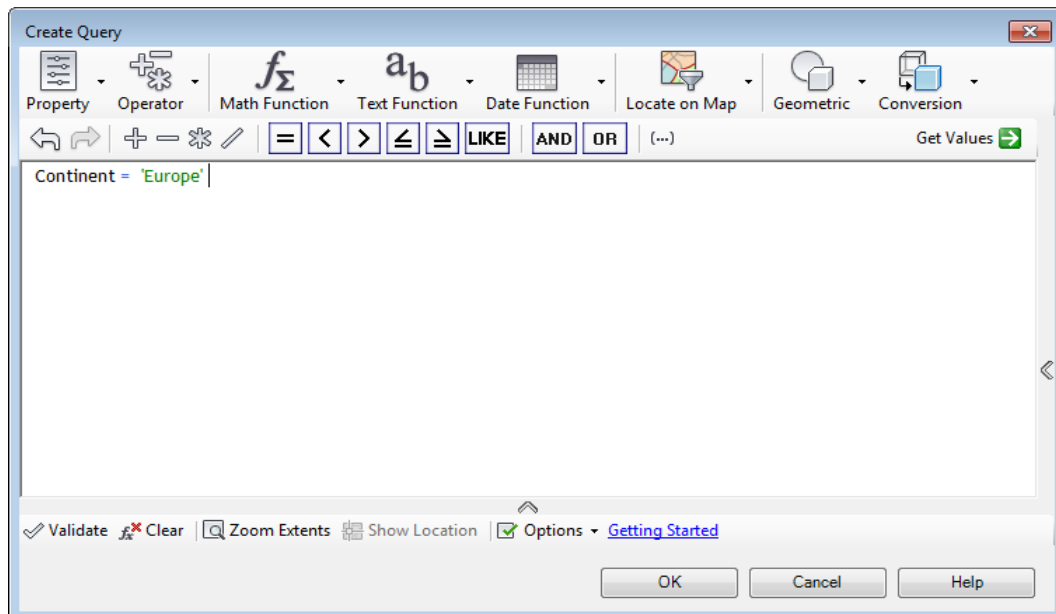

Figure 2-29 The **Create Query** window displaying the query
13. Enter **Continent = 'Europe'** in the edit window, as shown in the Figure 2-29, and choose the **OK** button in the **Create Query** window; the query is executed and the filtered map objects are added to the drawing window. Next, close the **DATA CONNECT** wizard.